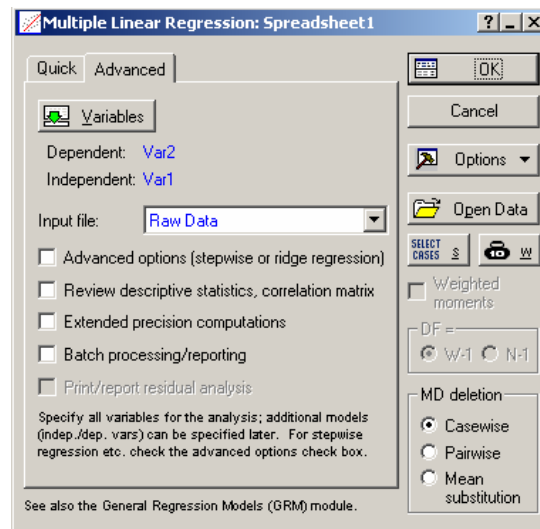

Figure 8.7 Multiple Regression Setup
2. Statistics / Multiple Regression, to get Figure 8.7,click Advanced
2. Statistics / Multiple Regression, to get Figure 8.7, click Advanced